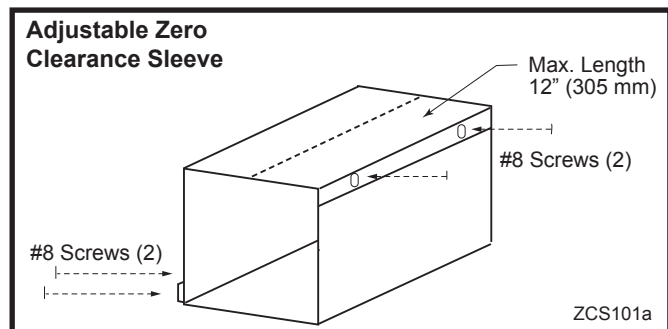
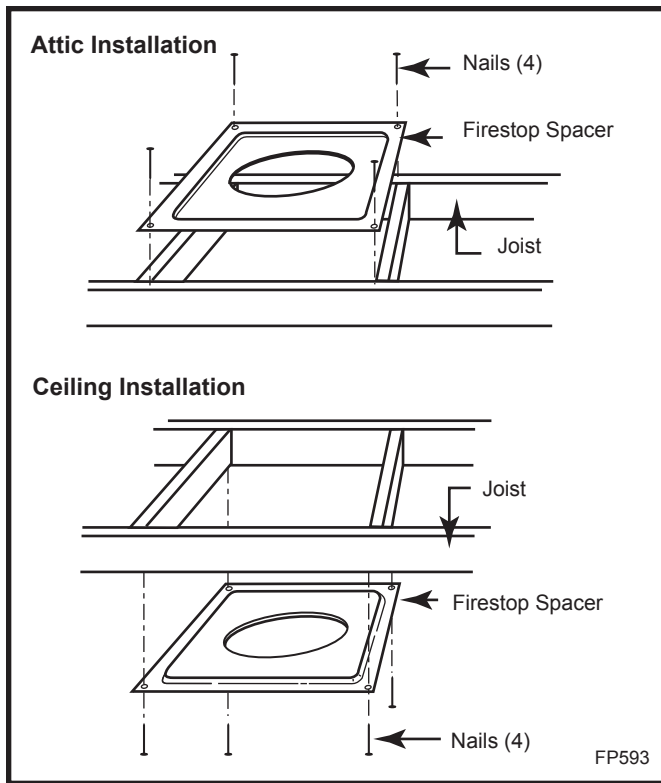

Fig. 21 Adjustable zero clearance sleeve.
Fig. 30 Installing firestop spacer.
Measure wall thickness and cut zero clearance sleeve parts to proper length (MAXIMUM 12"/305 mm). Assemble sleeve using #8 sheet metal screws (supplied). (Fig. 21) Install firestop assembly. (Fig. 30)
- SKCS8 must be used to support offsets. (Fig. 30) This application will require that you first determine the roof pitch and use the appropriate starter kit. (Refer to Venting Components List)
6. Place firestop(s) SKFS2A or Attic Insulation Shield AIS-SK into position and secure. (Figs. 30, 31)